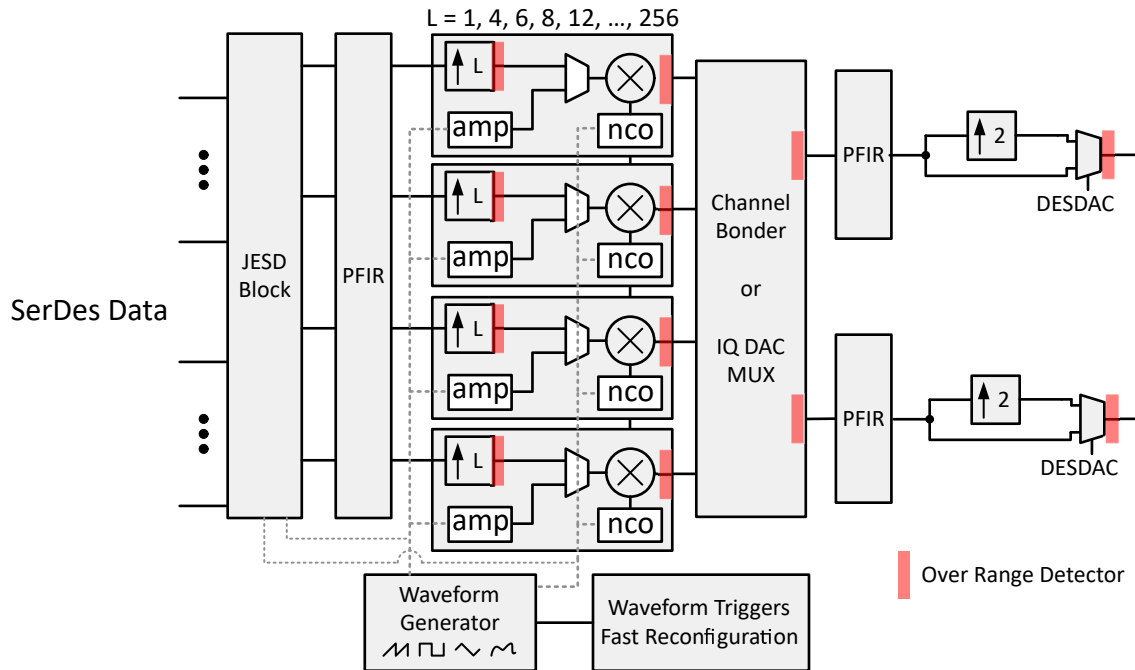

Figure 7-10. Digital Signal Processing Blocks
The digital signal processing blocks are shown in Figure 7-10. The device includes four digital up-converter (DUC) blocks supporting four complex (IQ) input streams that can be combined at different RF frequencies. The four DUCs can be flexibly assigned and summed together for either DAC output in the channel bonder. A programmable FIR filter can be used either at the input to the DUC's or at the DAC sample rate. The final signal processing block is a extra interpolate by 2 filter for use with DES mode.